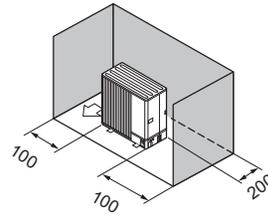

Fig. 2-11
- (3) Obstructions or closed surfaces at rear and sides only (Fig. 2-11)